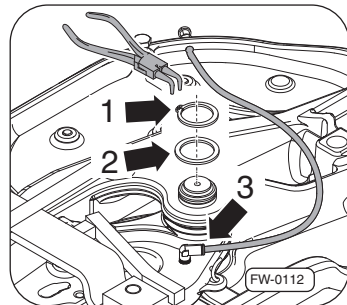

Fig. 31 · Remove bolt retainer
4. Remove circlip Fig. 31, –pos. 1– and support washer –pos. 2–.
5. Remove the lubrication line SK-S 36.20 W/SK-S 36.20 DW –pos. 3– from the coupler jaw.